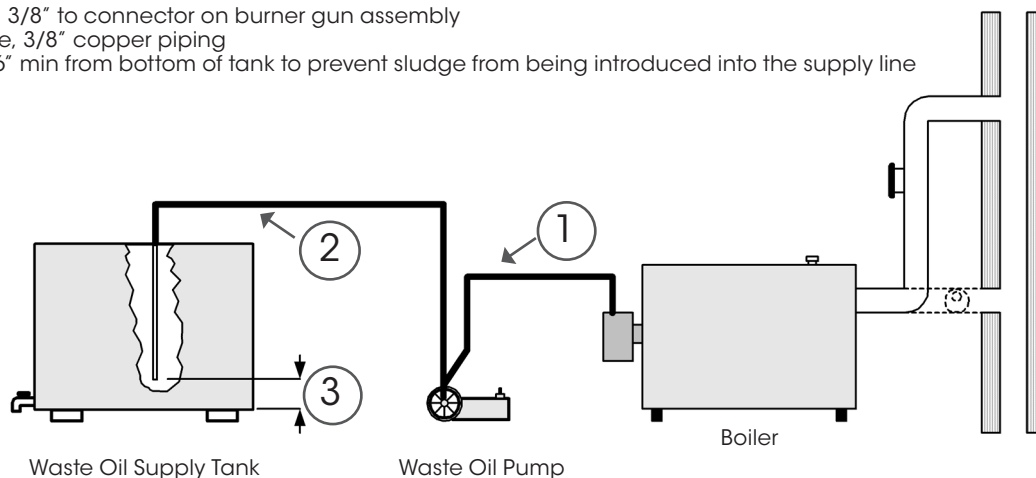

Figure 11
5. Waste Oil Piping: USE ONLY 3/8" nominal ID copper piping with flare fittings only on the oil suction from the tank to the oil pump and oil pump to burner. **DO NOT use ferrule fittings or teflon tape on any pipe fittings.** Keep suction line approximately 6" from bottom of oil tank to prevent suction of sludge (Figure 11). Use only an inside oil storage tank. **Do not** draw from an outside tank, especially not an underground tank directly to burner. A separate transfer pump from an outside tank with proper filtration to the inside supply tank is acceptable.